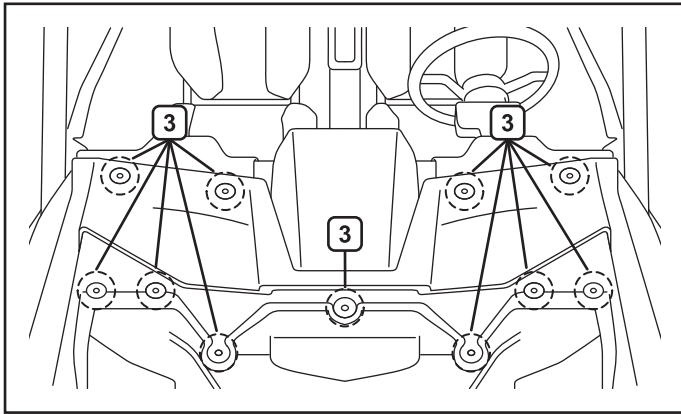

Figure 7.
Suggested Contactor Location is under the hood, remove hardware (3) to access, see figures 7 and 8.